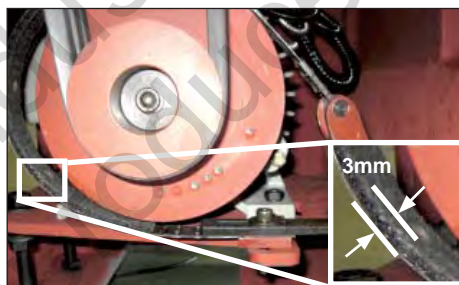

Figure 93. Minimum brake band lining thickness.
4. Measure the remaining brake band lining at the thinnest point, which is usually at the 8 o'clock position, as shown in Figure 93.